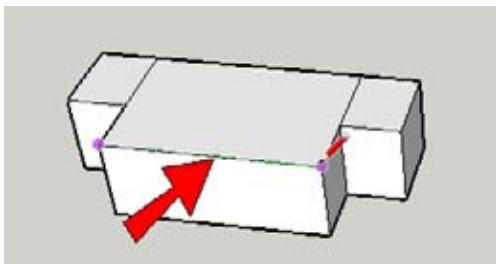

Figure 2-85
5. Now you can start making the 3D path. Activate Line and click the two endpoints of the line indicated in Figure 2-85. Because the boxes are grouped, the line does not stick to it and remains a separate object.